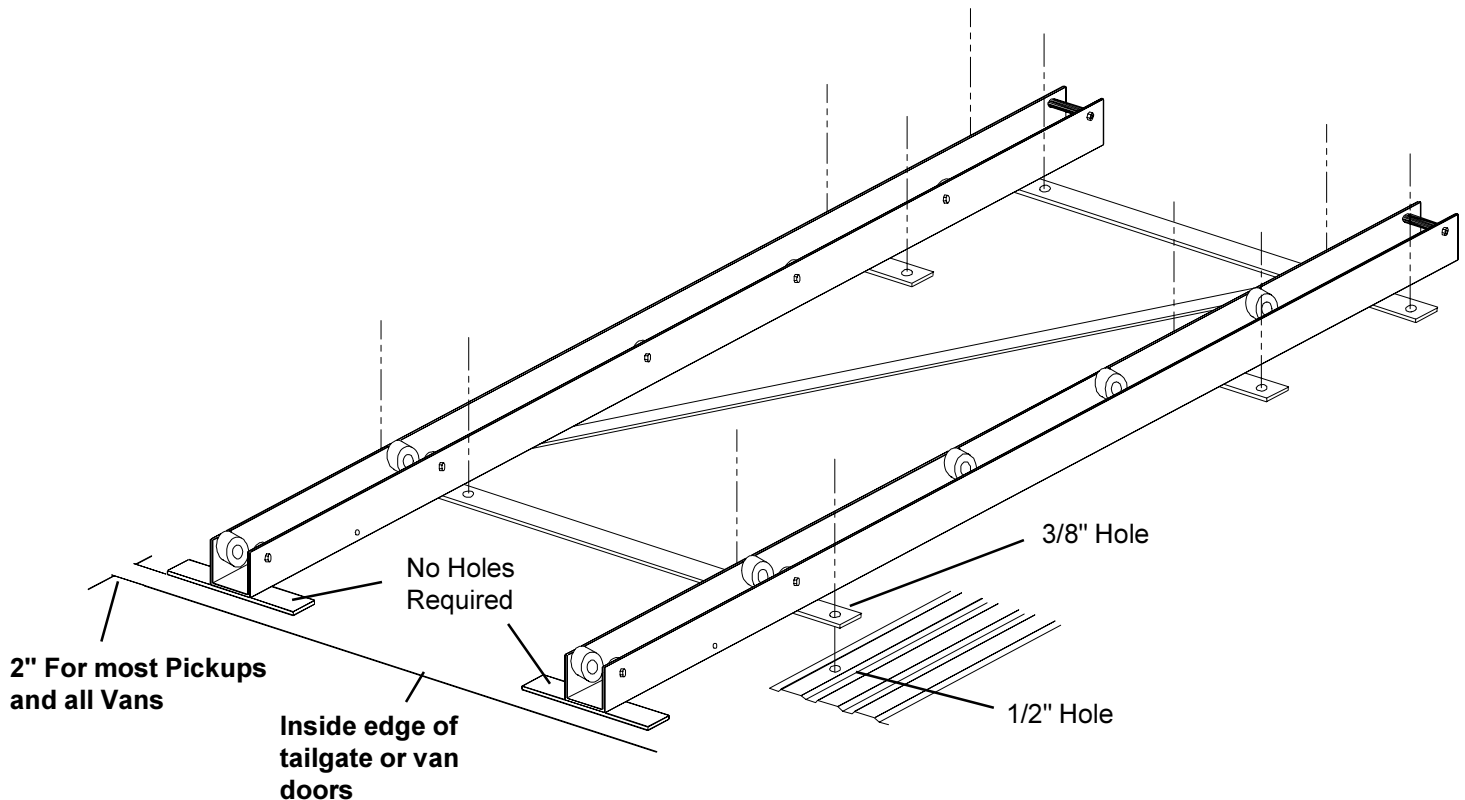
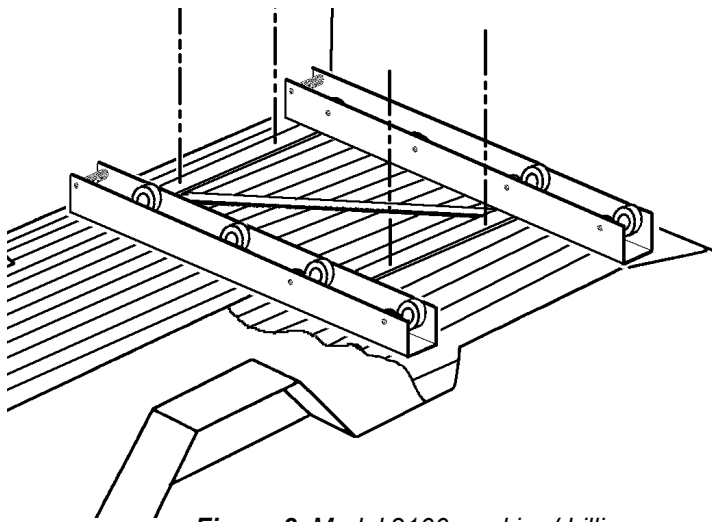

Figure 2. Base Assembly marking/drilling (Model 3400 shown)
Figure 3. Model 3100 marking/drilling
2. Mark hole locations on the mounting bars, centering the holes on the bars and on the top portion of the floor ribs if possible. If it is not possible, four Spacers have been provided to fill the space between the mounting bars and the lower part of the floor ribs. NOTE: Twelve holes are required for Models 3300 & 3400, eight holes for Model 3200 (see *Figure 2.* for mounting holes) and four for Model 3100 (see *Figure 3.*). Drill through the mounting bar and the floor at one rear location, and insert a 5/16-18 x 1-1/2" Hex Hd. Bolt into the hole. Drill one front mounting bar location, and insert a bolt. Drill the rest of the mounting bar/floor holes.